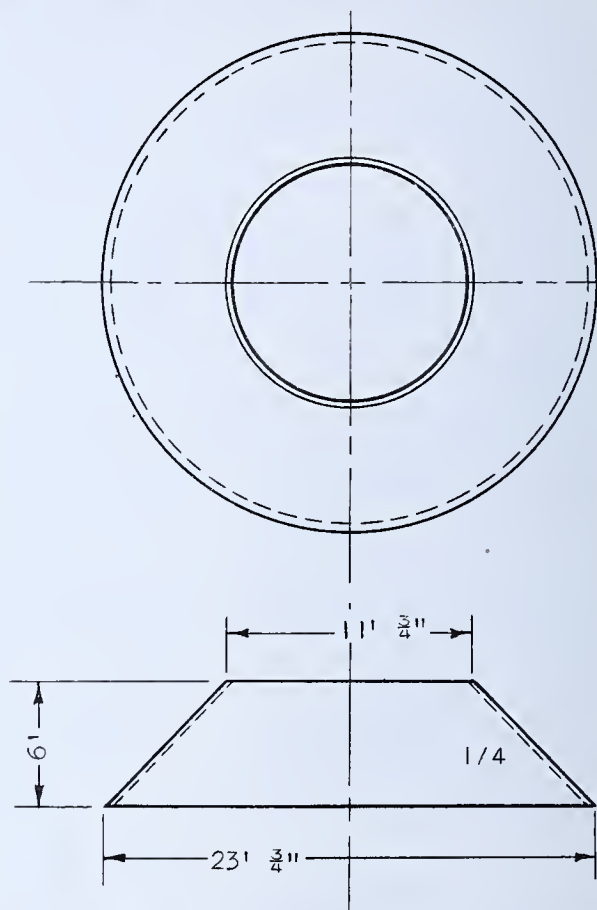

FIG. 302 — *Blueprint of Cone Frustum*
1. Make a layout to size of the cone frustum (Fig. 302) shown in the blueprint.